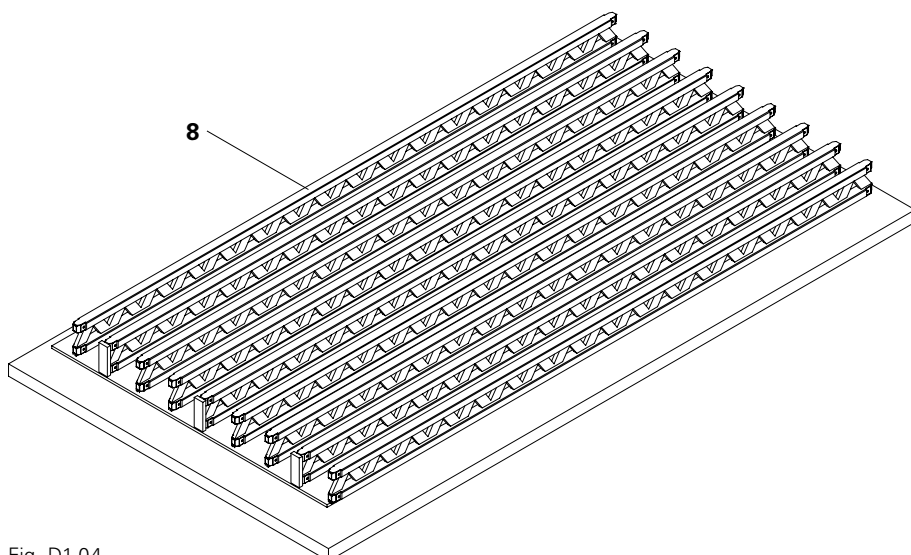

Fig. D1.04
5. Dismantle Hook Straps HB 24-100/120 (9). (Fig. D1.04)
6. Dismantle Articulated Walers GRV (1).
7. Dismantle formlining and Lattice Girders GT 24 (8).